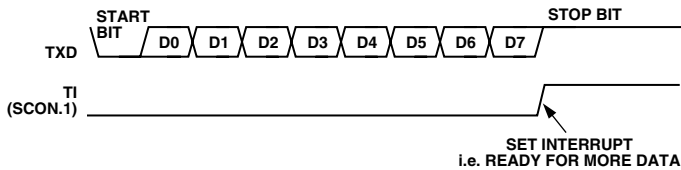

Figure 41. UART Serial Port Transmission, Mode 0.
Transmission is initiated by writing to SBUF. The 'write to SBUF' signal also loads a 1 (stop bit) into the ninth bit position of the transmit shift register. The data is output bit by bit until the stop bit appears on TXD and the transmit interrupt flag (TI) is automatically set as shown in Figure 41.